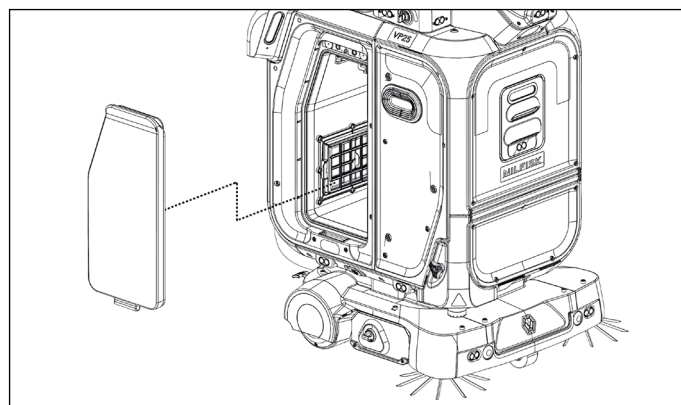

Figure 80
1. Open and remove the tank hatch (**13**) (**Fig. 2**) by pulling the top of the hatch outward, and then lifting the hatch away from the robot (**Fig. 80**).
1. Open and remove the tank hatch (13) (Fig. 2) by pulling the top of the hatch outward, and then lifting the hatch away from the robot (Fig. 80).